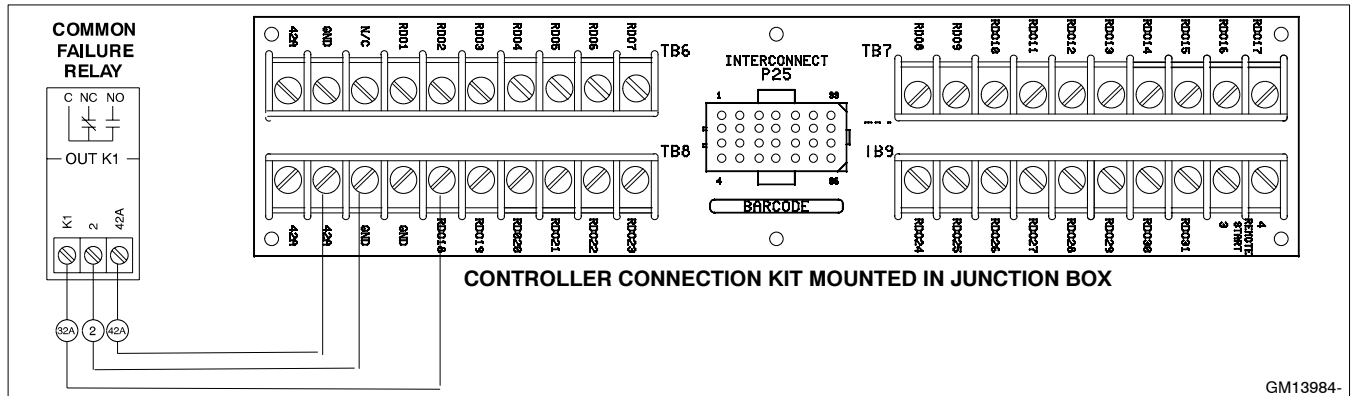

Figure 6 Common Failure Relay Kit Connections
3.1.2 Connect the wiring harness (GM17030) to the common failure relay input terminals. Use the wiring harness end with the shorter individual leads. See Figure 6 for connection information.
3.2.2 Connect the wiring harness (GM17030) to the common failure relay input terminals. Use the wiring harness end with the shorter individual leads. See Figure 6 for connection information.
3.3.2 Connect the wiring harness (GM10187) to the common failure relay input terminals. See Figure 6 for connection information.
Connect the wiring harness (GM17030 or GM10187) to the controller connection kit. See Figure 6 for connection information.